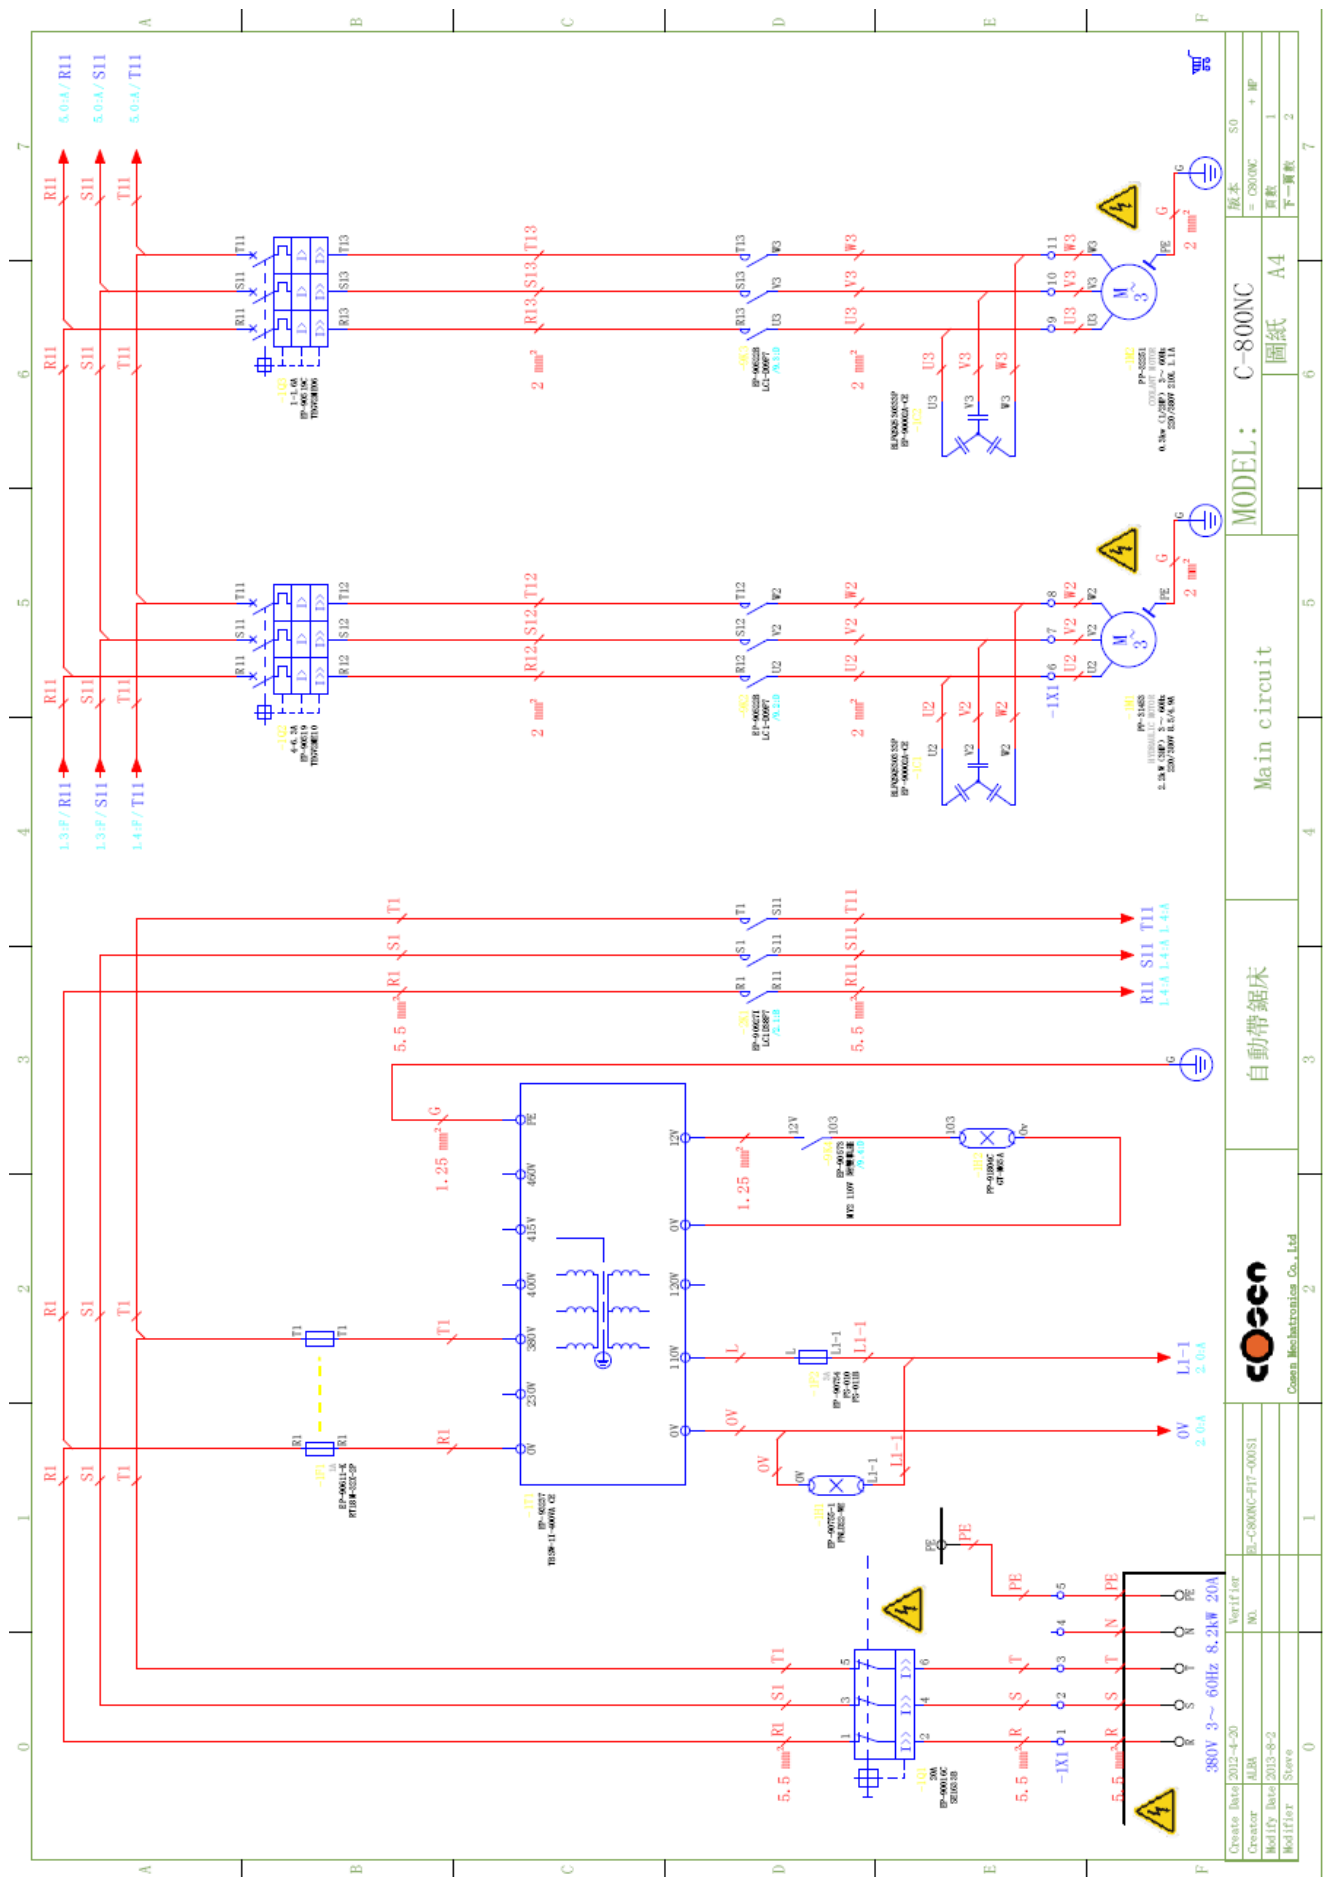

Fig. 5-1 Main circuit layout
- Fig. 5-1 Main circuit layout